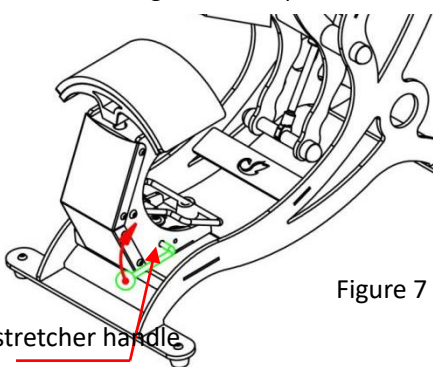
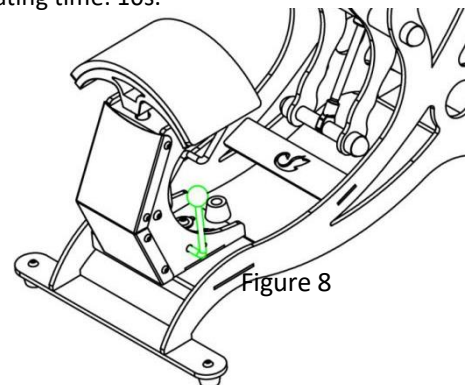
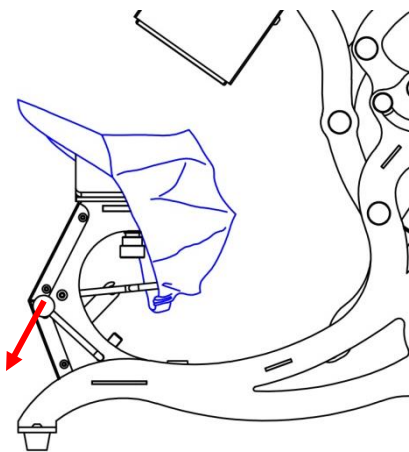

Figure 7
Figure 8
Figure 9
4. As shown in Figure 7 and Figure 8, pull the “cap stretcher handle” to lift the cap stretcher following the direction of the arrow, put the cap which need to do hot stamping on the mould, and lower the cap stretcher following the direction of the arrow in Figure 9, then straighten and flatten the cap.